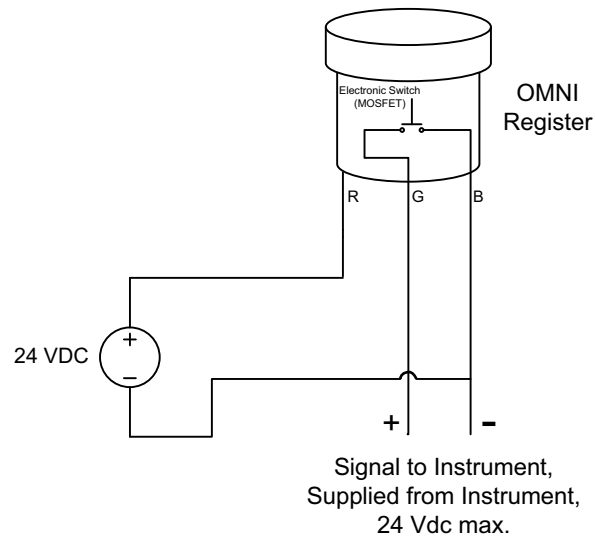

Figure 2-2
Figure 2-2 is used for all instruments with internal pull-up resistors. The voltage supplied by the instrument's input when not connected to any circuitry should not exceed 24 Vdc nom. and must not exceed 30 Vdc max. Otherwise, it will overload the MOSFET inside the OMNI register. The voltage supplied to the register is allowed to be different from the instrument's supply voltage.
*If possible, the circuit of Figure 2-2 should be used.